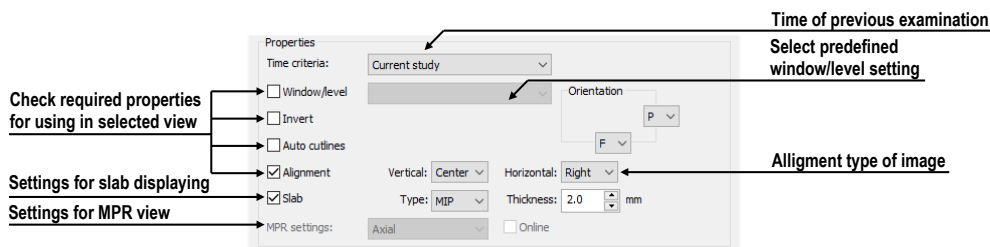

**Figure 190 – DICOM criteria set dialog**
4. Define the allowed values for the specified DICOM tag (see Figure 190):